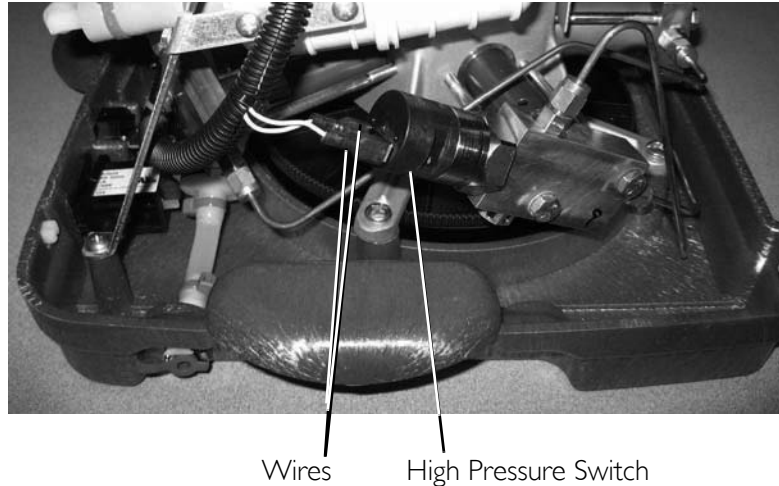

FIGURE 10.2 Compressor Replacement - HomeFill Units Manufactured Before 8/1/05
8. Disconnect the two wires from the high pressure switch (FIGURE 10.2).
14. Connect the high pressure oxygen line to the cylinder fillport connector. Securely tighten using the $\frac{7}{16}$ open ended wrench (FIGURE 10.2).
15. Connect the two wires to the high pressure switch (FIGURE 10.2).